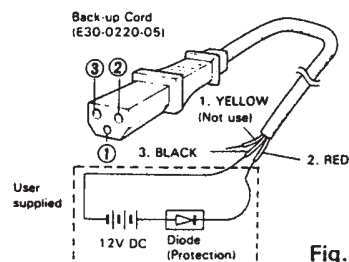

Fig. 3-4
6. If you wish to retain the memories even when changing the installation between the car and the fixed station, utilize a back-up cord as shown in Fig. 3-4.